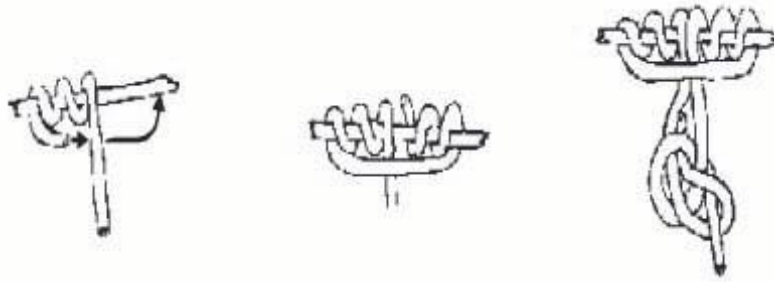

Figure 2-25. Multi Directional Prusik
(2) Multi Directional, End of the Line Prusik. This knot will move freely along a fixed rope until tension is applied to it; it will then lock in place. It can be used as a safety/retrieval Line (Figure 2-25).